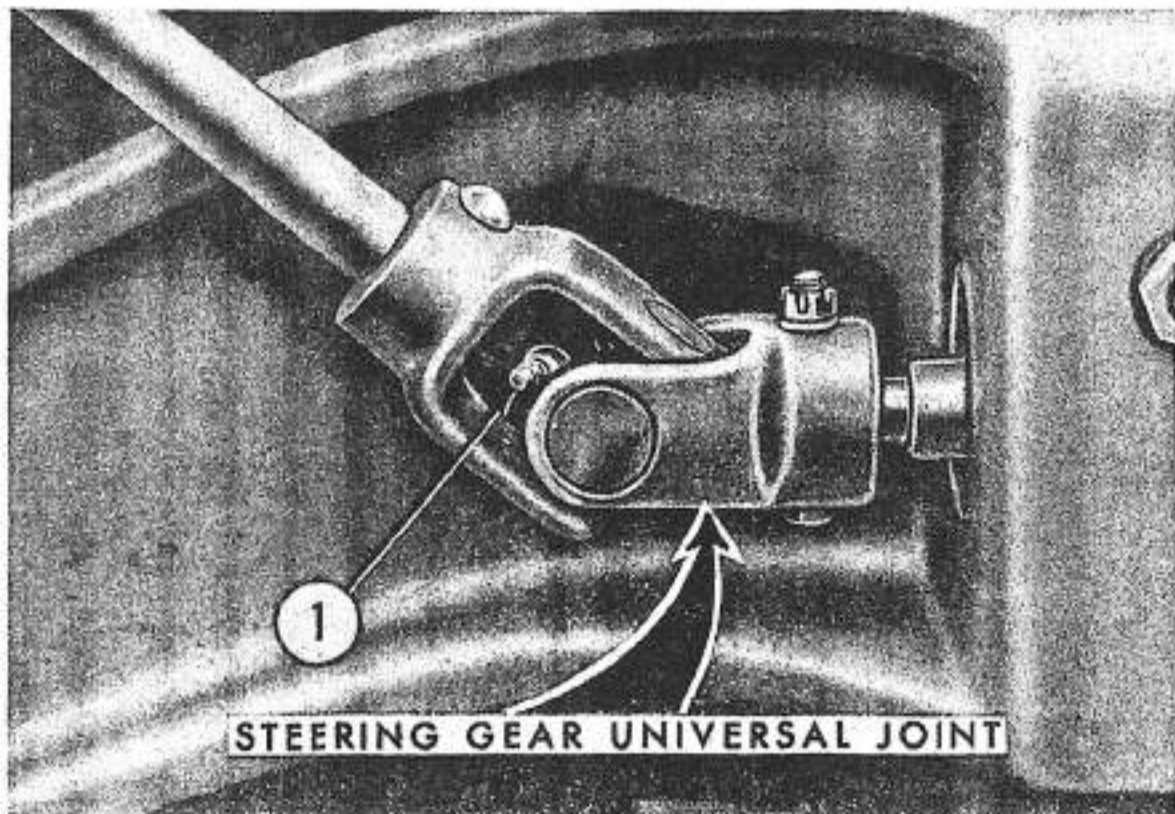

Figure 8
The universal joint at the lower end of the steering shaft is equipped with a grease fitting (1), Figure 8. Clean the fitting and apply pressure gun grease after every 100 hours of operation.